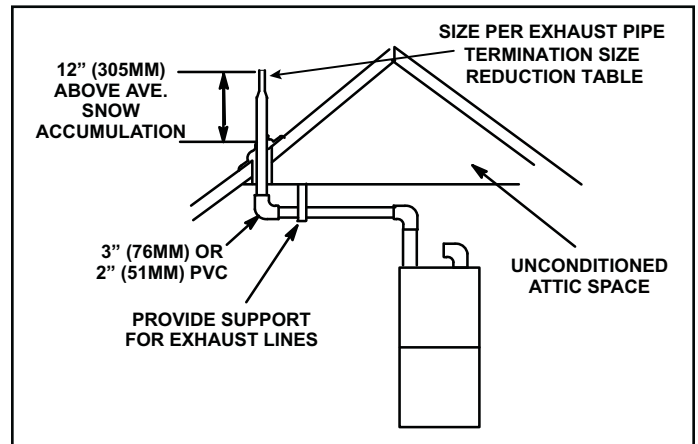

Figure 30. Non-Direct Vent Roof Termination Kit
3. On roof terminations, the intake piping should terminate straight down using two 90° elbows (see Figure 30).